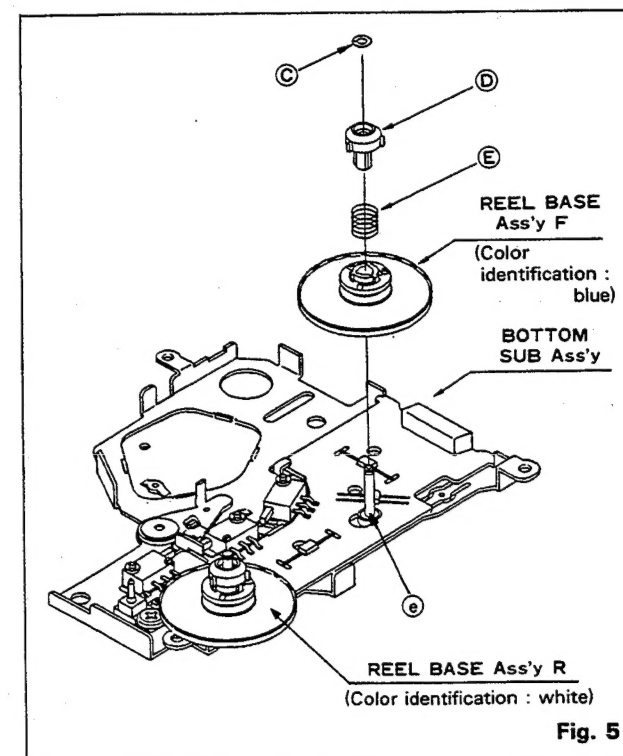

Fig. 5
- (4) Replacement of reel base ass'y (Refer to Fig. 5)
- (a) Remove the special washer (C) (φ3.2 split).
- (b) Remove the slide bushing (D) and slide spring (E).